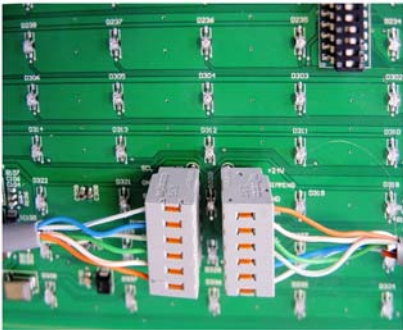

Fig. 11: Zonal Display Front Cover Rear View - WAGO Terminal Blocks Plugged into PCB 6-Pin
- 9 Plug the terminal block into the zonal display front cover rear PCB 6-pin. Ensure that there is no missed connection. Refer to Fig. 11.
- 3 Plug the other end of the WAGO terminal block into the second zonal display front cover rear PCB 6-pin to create a ‘daisy-chain’ connection. Refer to Fig. 11.